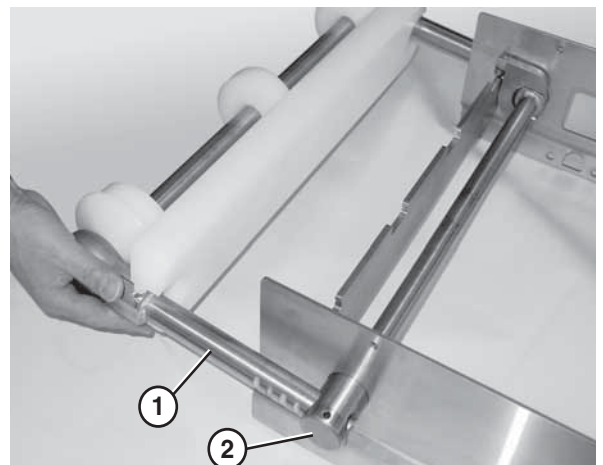

Figure 20
3. Slide the bearing shafts (Figure 20, item 1) into the holes in the tip up shaft (Figure 20, item 2).